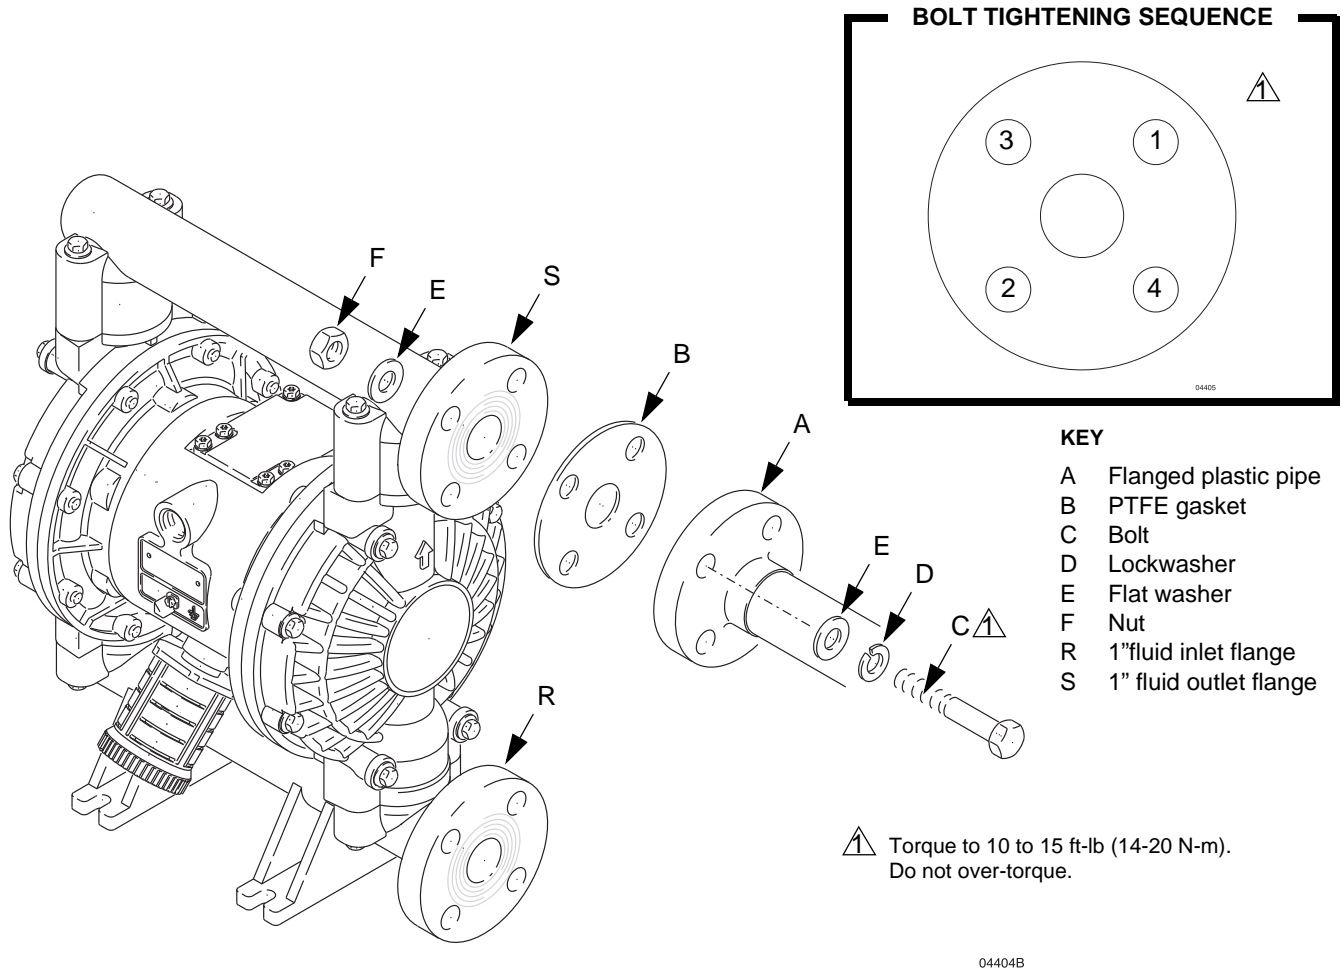

Fig. 3
1. Place a lockwasher and a flat washer on each bolt. Refer to Fig. 3.
4. Hold the nuts with a wrench. Refer to the tightening sequence in Fig. 3 and torque the bolts to 10 to 15 ft-lb (14 to 20 N-m). **Do not Over-torque.**